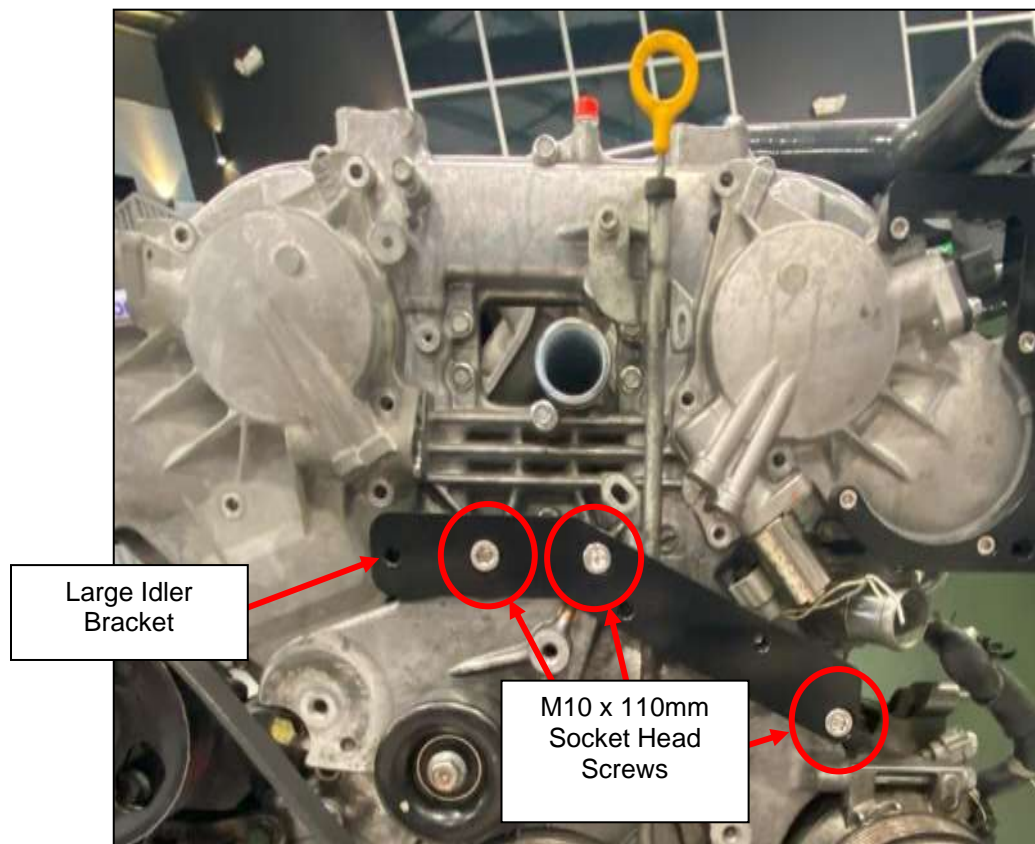

Figure 17
3. Locate the Triple Idler Bracket (#37), and (3) three M10 x 110mm Socket Head Screws (#39). Place the Triple Idler Bracket over the Timing Cover as shown below and use the (3) three M10 x 110 mm Screws to secure it. The dipstick tube will get slightly pushed toward the passenger side of the engine, make sure it rests in the channel of the Triple Idler Bracket. Torque M10 bolts to **41 ft-lbs**. Be careful not to pinch the wiring harness between the bracket and front timing case. If you didn't move the wiring harness behind the dipstick, push the harness back against the timing cover and zip tie it to either the dipstick tube or solenoid above the bracket.
- Figure 17.*